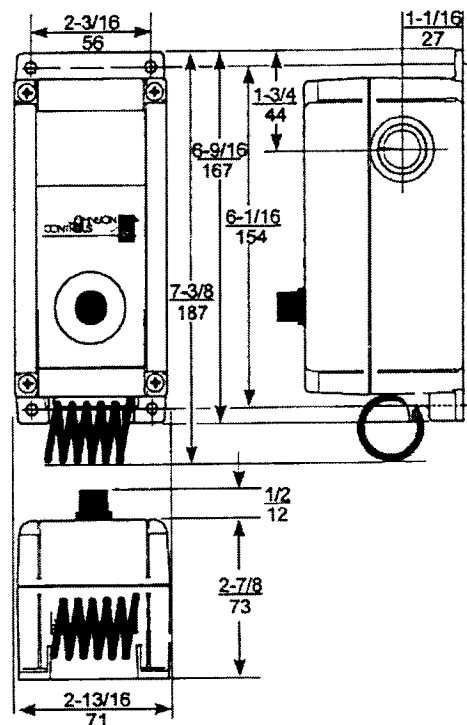

Figure 1: Dimensions for T19PC Temperature Controls with NEMA 4X Enclosures, in./mm
The T19PC type electromechanical temperature controls are designed for use in many agricultural applications. The T19PC controls have rugged Noryl® plastic enclosures and are (UL) Listed as NEMA Type 4X and for use in National Electrical Code (NEC) Article 547 Agricultural Environments (ANSI/NFPA 70). See Figure 1 and *Technical Specifications*.
Mount the temperature control to a flat surface with screws through the holes in the mounting ears on the back of the case. See Figure 1.